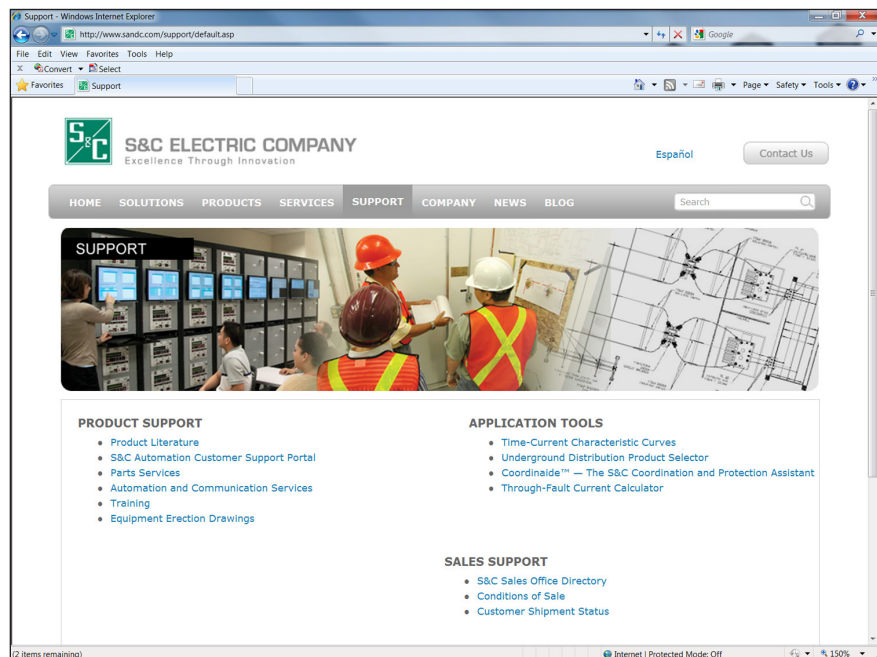

Figure 1. The S&C Automation Customer Support Portal is accessed on the Support page at sandc.com.
6. Windows PowerShell 2.0 is set for an execution policy of *AllSigned*. Execution policies of *RemoteSigned* and *Unrestricted* will also work. Policy selection should be based on security policy set forth by your IT department. The *AllSigned* execution policy will result in the appearance of a dialog, shown in Figure 1, after a firmware upgrade has begun. In order to perform the firmware upgrade the *Run once* or *Always run* button must be selected. Selection should be based on the security policy set forth by your IT department. Windows PowerShell 2.0 is preinstalled on Windows 7 and 8, but will need to be downloaded for Windows XP. Windows PowerShell 2.0 can be downloaded from this link: <http://support.microsoft.com/kb/968929>. To set and verify the execution policy you will need to be logged in as an administrator.
The latest M Series Switch Operator software release is posted at the S&C Automation Customer Support Portal. This library of current and legacy software requires a password, and gives users access to the software needed for S&C equipment operated by their utility. sandc.com/support/automation-customer-support-portal.asp. See Figure 1. You can request a Portal password by using this link.